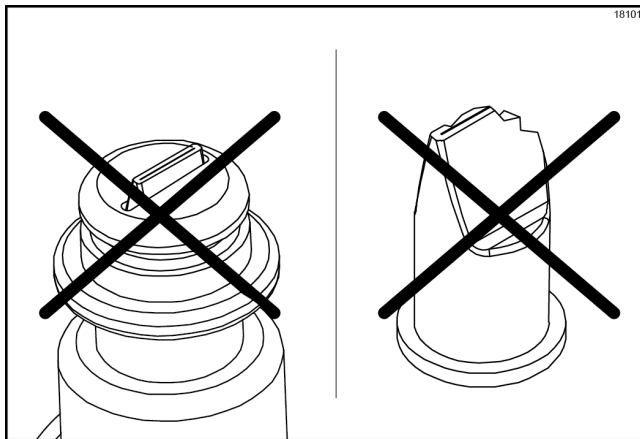

Figure-70
**Note:** Replace the duckbill valve if it is damaged or extends past the syrup nose fitting slot. (See Figure-70.)